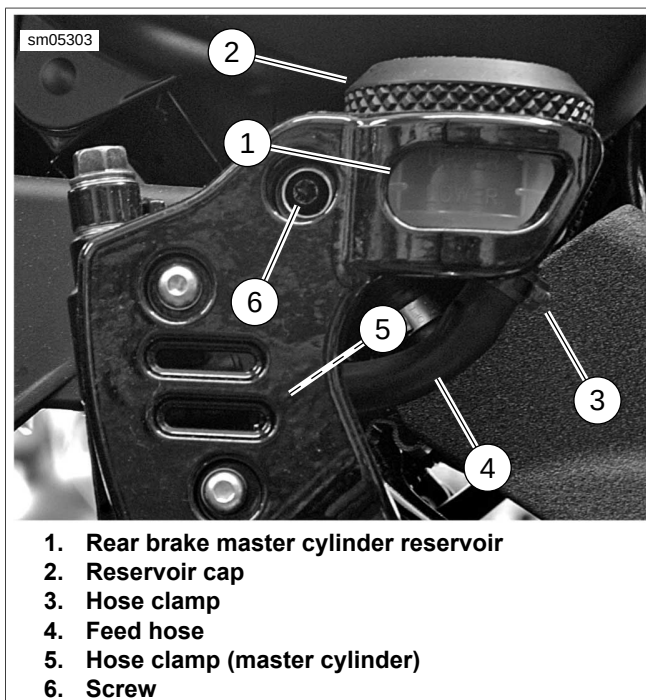

Figure 2-99. Rear Brake Master Cylinder Reservoir: XR 1200X
- See Figure 2-99. Loosen reservoir cap (2).
- Remove screw (6).
- Remove reservoir cap (2). Hold reservoir upside down over a suitable container and drain brake fluid.
- Loosen hose clamp (3) and pull feed hose (4) from reservoir. Slide hose clamp off free end of feed hose.
- Loosen hose clamp (5) and pull feed hose off master cylinder. Cover feed hose port with a clean, lint-free cloth to keep dirt and debris out of master cylinder.
1. See Figure 2-99. Slide end of feed hose (4) onto feed hose port on master cylinder. Secure feed hose to fitting with hose clamp (5).
2. Slide hose clamp (3) onto free end of feed hose (4).
3. Push feed hose onto fitting on reservoir (1). Secure with a hose clamp.
4. Install reservoir using screw (6). Tighten to 36-60 in-lbs (4.1-6.8 Nm).